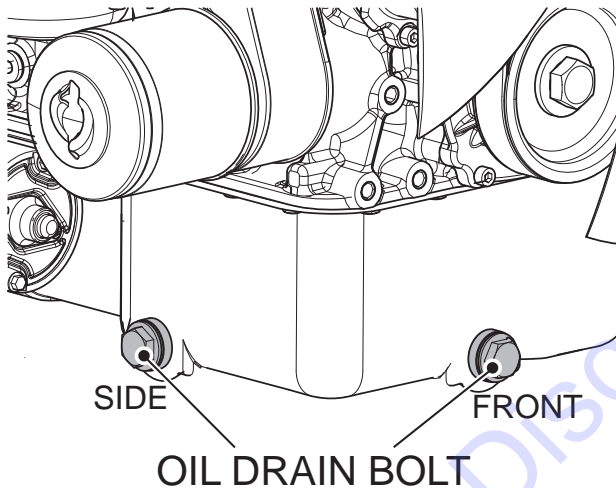

Figure 45. Oil Drain Bolts
3. Remove either the side or front oil drain bolt (Figure 45) to drain the oil into the container.